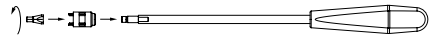

Fig. 8
- ▶ Hand-tighten the bolt(s) of the set screw starter, see Fig. 8.